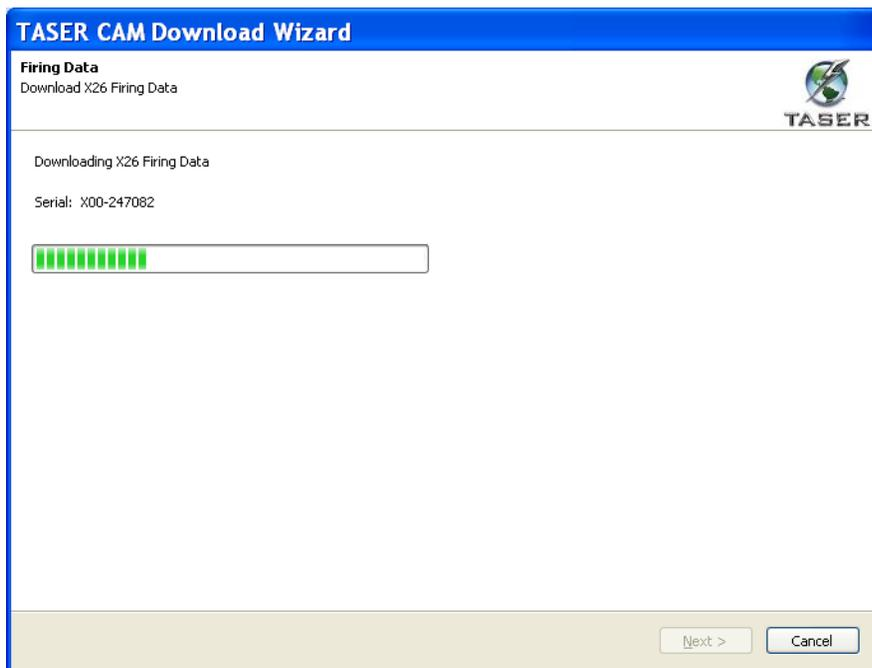

Figure 19
11. If a weapon is connected, the firing records will also be downloaded (Figure 19).